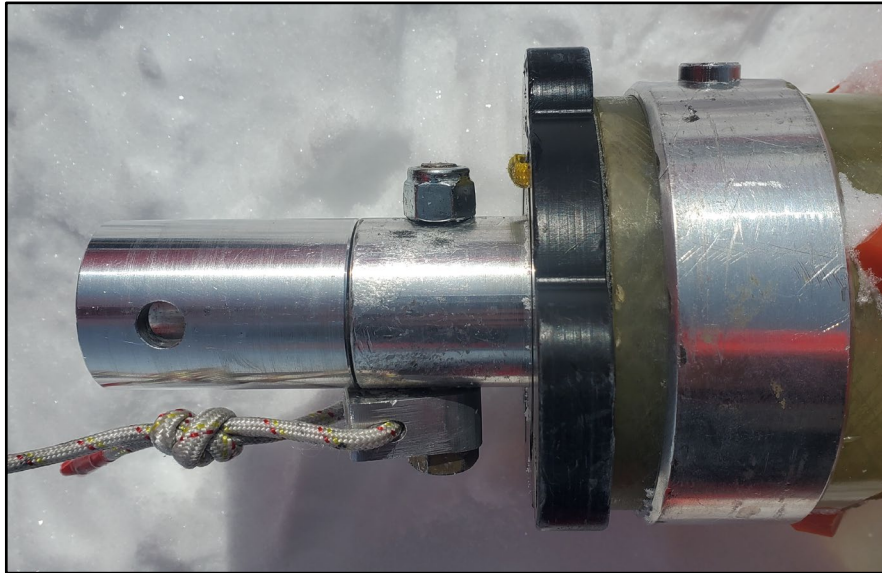

Figure 14: SideWinder Rope Attach Adapter
- 13.1** Refer to 8418-0002, SideWinder Operator's Guide for a full description of the use of the SideWinder accessory. This guide is only intended to explain the adapters specific to the IDDO Hand Auger system (Figure 14).